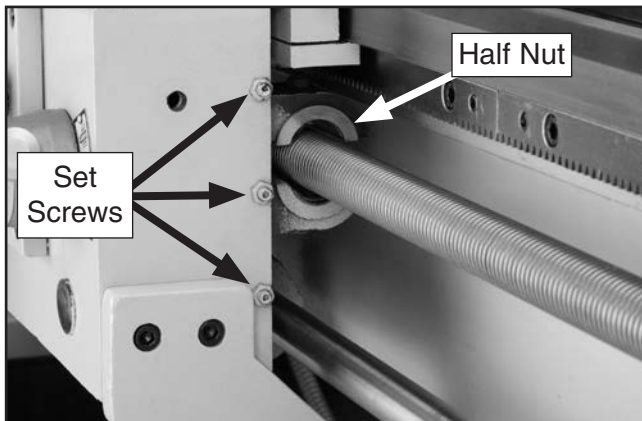

Figure 102. Half nut gib set screws.
3. Loosen the hex nuts on the set screws shown in **Figure 102**.